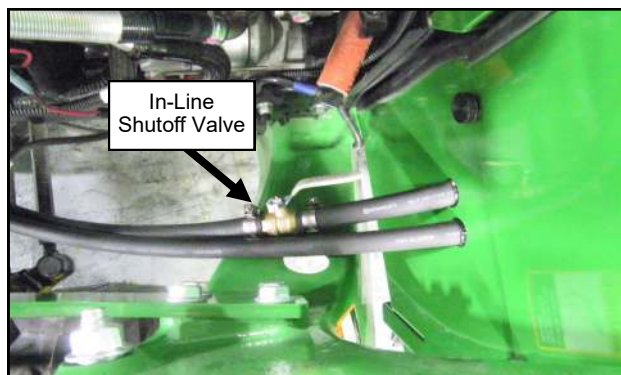

Fig. 18.12 (In-Line Shutoff Valve)
18.12 In front of the A-Pillar and above the loader arm, splice into the hose connected to the block adapter and install the in-line shut-off valve with hose clamps. See Figure 18.12. Note: The in-line shut-off valve quickly converts the heater into a summertime blower by preventing hot water from flowing to the heater core.